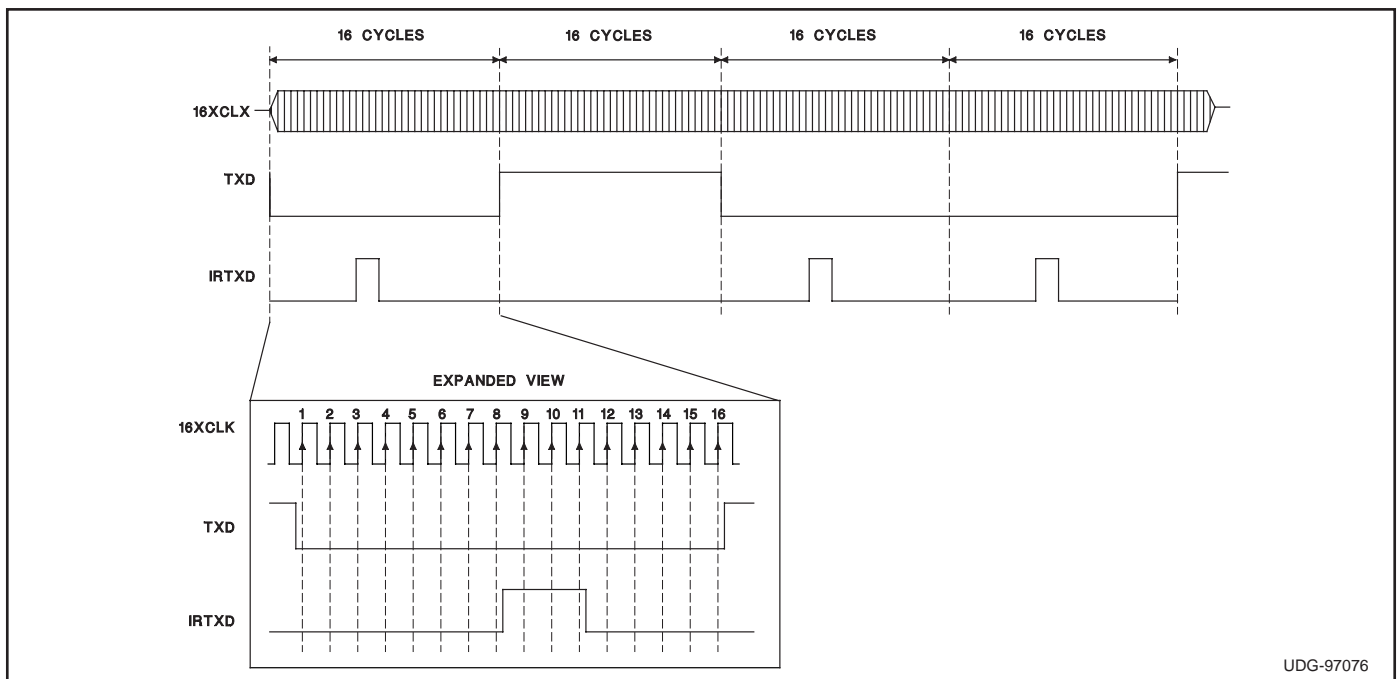

Figure 1. IrDA Encoder Timing Diagram
Figures 1 and 2 outline the IrDA SIR encoding scheme. The encoding scheme relies on a clock being present. The clock must be set to 16 times the data transmission baud rate. The encoder sends a pulse for every space (0) that is sent. On a high to low transition of TXD signal, the generation of the pulse is delayed for 7 clock cycles of